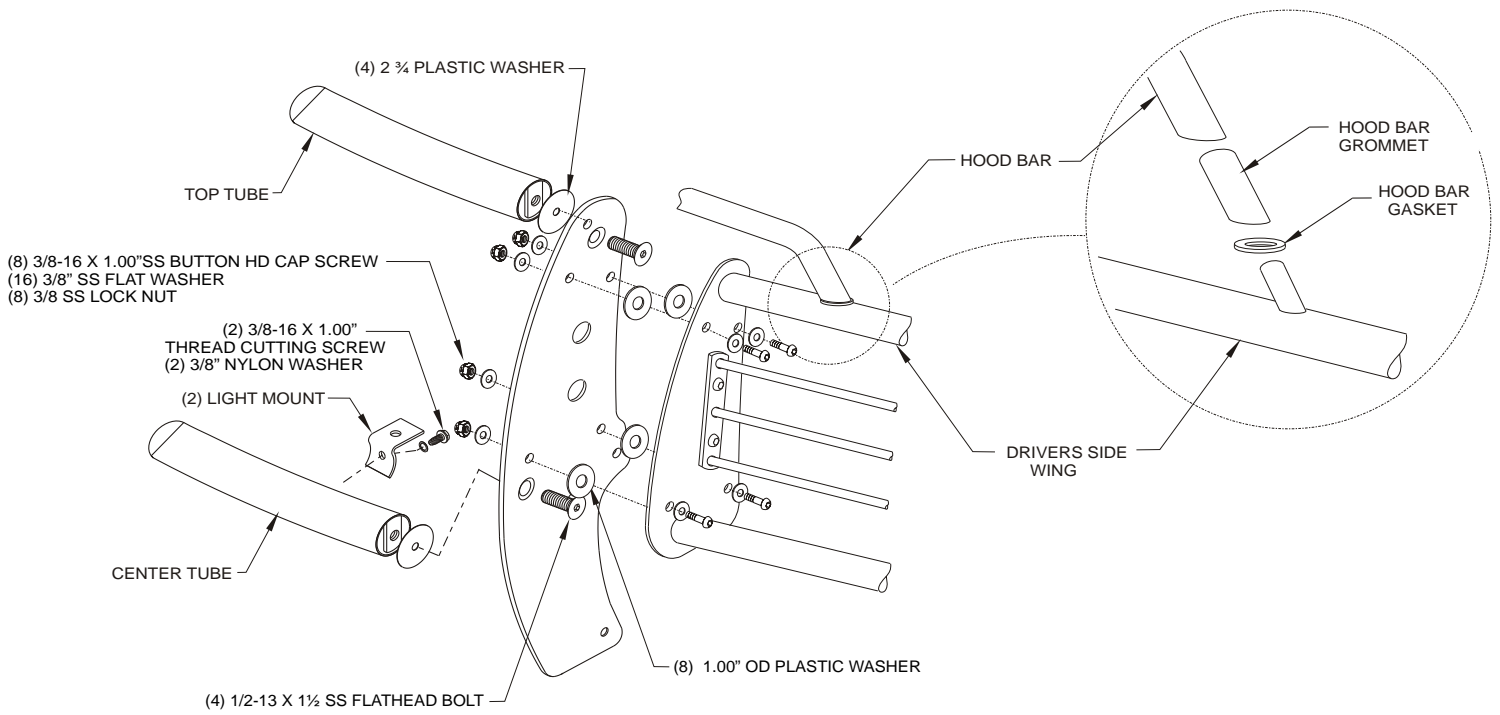

FIGURE 2
- STEP 3. Determine passenger and driver uprights, top and center tubes. (Uprights are positioned so raised side of bolt holes are facing each other). SEE FIGURE 2.
- STEP 4. Fasten uprights to top and center tubes using (4) 1/2-13 x 1.50" SS flathead bolts and (2) 2.72" OD plastic washers. Level tubes and torque to 60 FT. LBS.
- STEP 5. Fasten light mounts to center tube using (2) 3/8-16 x 1.00" thread cutting screw and (2) 3/8" nylon washers. Tighten and torque to 20 FT. LBS. SEE FIGURE 2.
- STEP 14. Install hood bar gasket and grommet on each wing assembly. Place gasket over the small tube and slide grommet until flush with gasket. SEE FIGURE 2.
- STEP 15. Determine passenger and driver side wing assembly. Install driver side wing assembly using (4) 3/8-16 x 1.00" SS button head cap screws, (8) 3/8" SS flat washers, (4) 3/8" SS lock nuts and (4) 1.00" OD plastic washers. Hand tighten. SEE FIGURE 2.
- STEP 16. Install hood bar over grommet on driver wing. SEE FIGURE 2. NOTE: Bend should face forward.